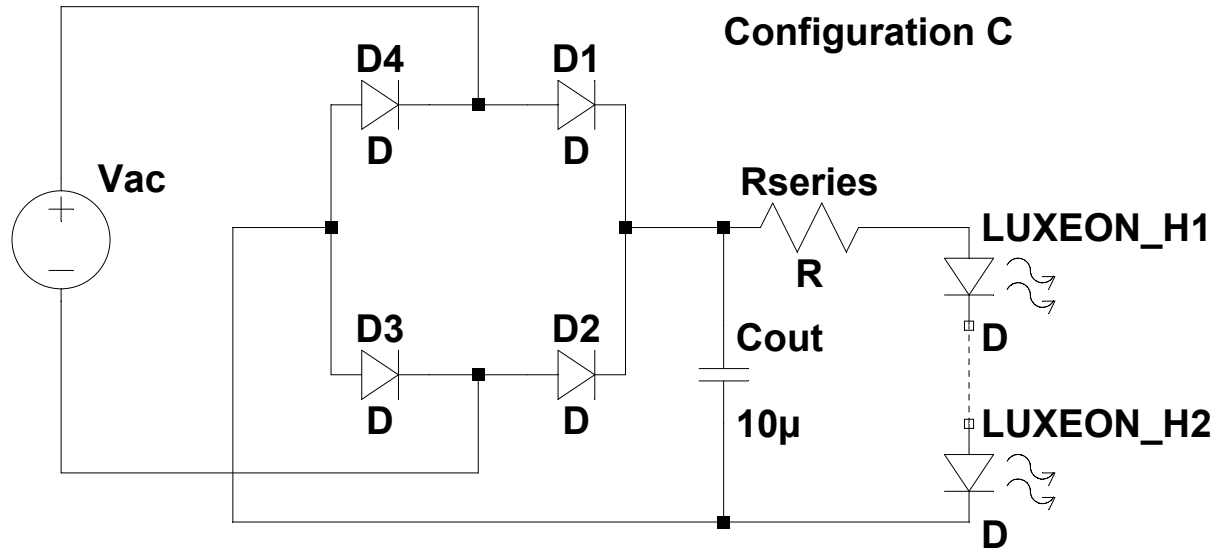

Figure 7. Configuration C, for use with table 3.
3. Configuration C: 10 μ F output capacitor in parallel and a resistor in series with LUXEON H LEDs (Figure 7)